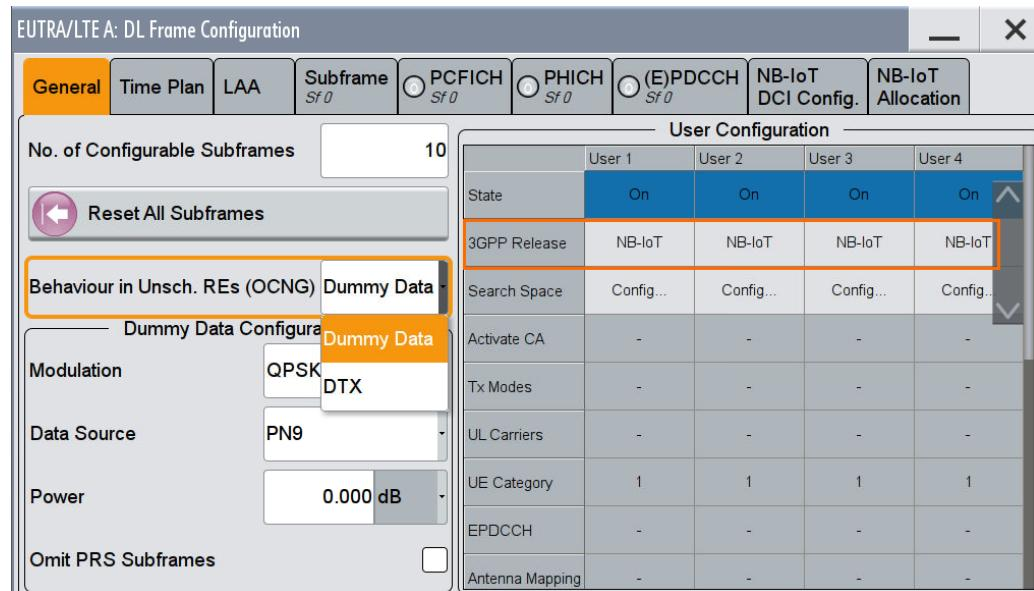

Figure 4-16: The downlink frame configuration with up to four users.
Click **Frame Configuration** for additional settings. The SMx can simultaneously operate signals for up to four (4) users, including mixed NB-IoT and LTE signals (see Figure 4-16). The SMx can also generate dummy data for non-allocated resources.